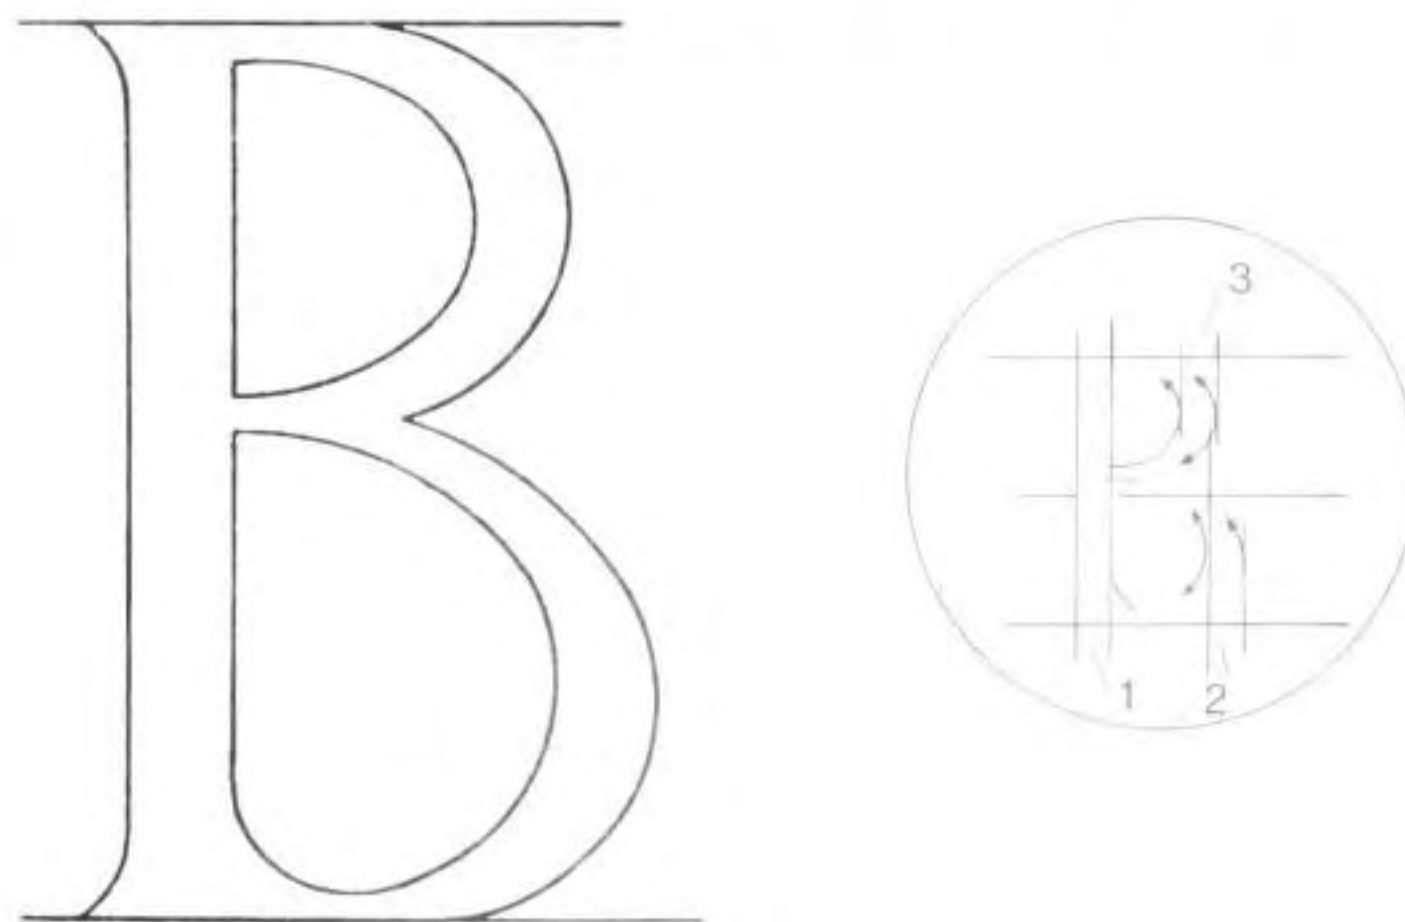

Fig 5.116 B: construction.
- 1 Refer to Fig 5.116. Carve the upright trench.